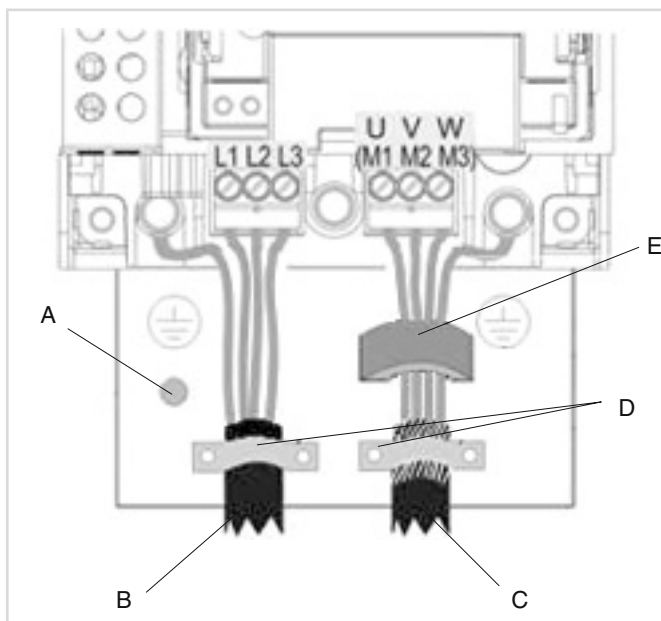

Fig. 10: Power connections (power cable and motor cable) with fixture
The fixtures for the power connection cables and control cables are delivered as standard in the accessories kit and must be mounted together with the ferrite core or the ferrite cores (see figure 10, page 51) up to VARIPACK housing size FJU+145, in order to achieve the EMC class C2.
Graphical explanations, see figure 10, page 51.
- Guide power cable and motor cable through the intended cable entries under the cable clips into the VARIPACK frequency inverter (see figure 10, page 51) and connect to the power terminals. Observe the tightening torques of the terminals (see table 3, page 49).